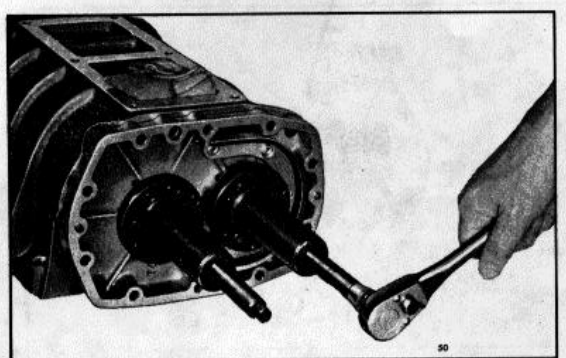

Fig 5 - Removing Blower End Plate using Tool Set J 6270-F
- d. Turn the two pullers screws uniformly clockwise and withdraw the end plate and bearings from the blower housing and rotors as shown in Fig. 5.